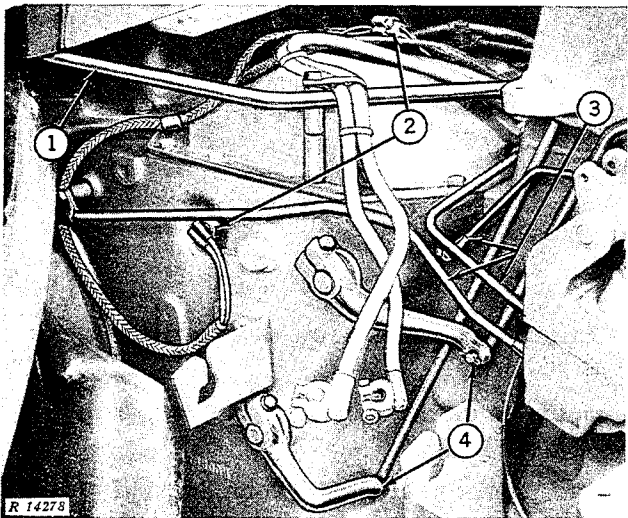

Fig. 15—Right Side of Transmission Case
1. Disconnect pressure pipe from rockshaft housing (Fig. 15).